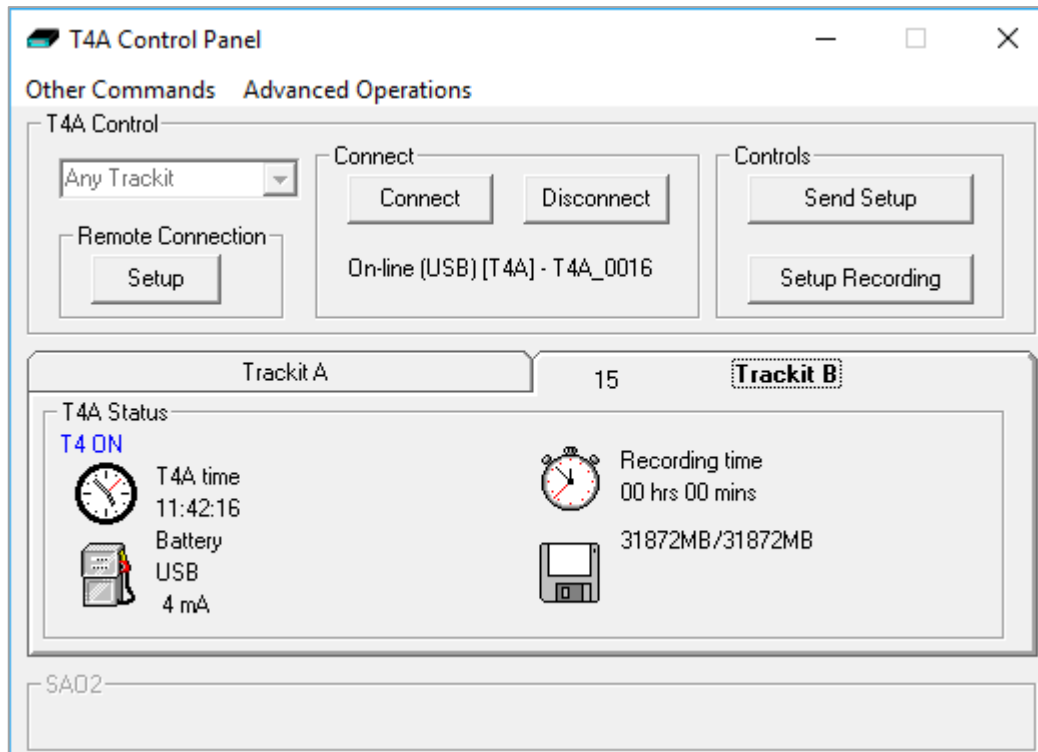

Figure 10: Trackit Control Panel "Status B"
Further status information is available on the 2nd tab ("Trackit B"). This includes the amplifier's time, Battery capacity, Recording time and SD card total and remaining capacity in (Megabytes (MB)) (see Figure 10).